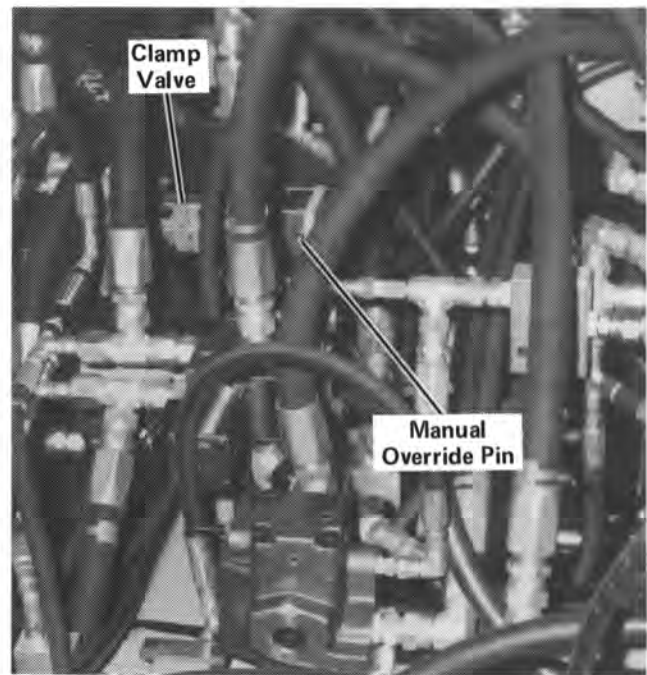

Figure 41
3. With the engine at full rpm, manually extend the gager side cylinders by pushing the manual override pin on the clamp valve until it is completely retracted. See Figure 41. Measure the distance between the inboard side of each rail at a point $5/8$ " down from the top of the rail. This distance should be approximately 56 " or $1/4$ " to $1/2$ " less than the required gage.
4. Manually extend the gager side cylinders by pushing the manual override pin on the clamp valve until it is completely retracted. See Figure 41.
3. With the engine at full RPM, manually extend the gager side cylinders by pushing the manual override pin on the clamp valve until it is completely retracted. See Figure 41. At this time the reading at the gage should indicate system pressure.